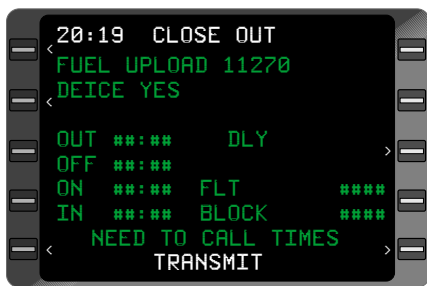

Figure 8-45
10. **ENTER** Key - DEPRESS when ready to close out the flight. The times will be transmitted via data link and will cause flight related information from the **INITIALIZE**, **STATION MENU**, **DISPATCH MENU**, **WGT/BAL** and **DVT/HOLD** pages to be cleared. **NEED TO CALL TIMES** will be displayed if the **ON** and/or **IN** event have not been acknowledged (see Figure 8-45). Press the **ENTER** Key and the **INITIALIZE** Page will appear with fields cleared and ready for next flight entry.